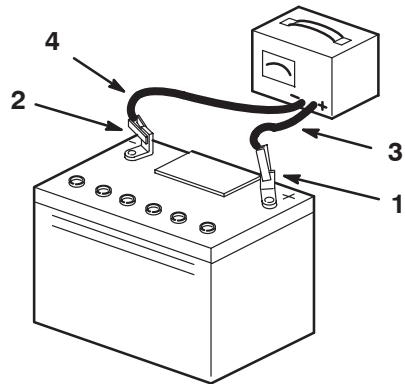

Figure 2
6. Charge the battery for 10 to 15 minutes at 25 to 30 amps or 30 minutes at 4 to 6 amps (Fig. 2). Do not overcharge the battery.
7. When finished, unplug the charger from the electrical outlet, then disconnect the charger leads from the battery posts (Fig. 2).